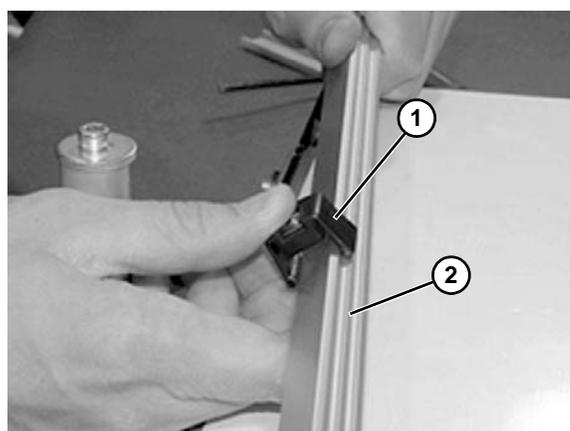

Figure 36
4. Snap clip (**Figure 36, item 1**) onto guide rail (**Figure 36, item 2**).